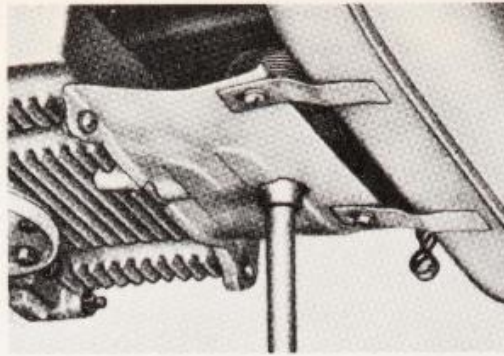

Fig. C-13. Remove thermostat mounting screw as shown, then unscrew thermostat from connecting rod.
- 5 - Detach heater hoses from fan housing and remove thermostat, Fig. C-13.